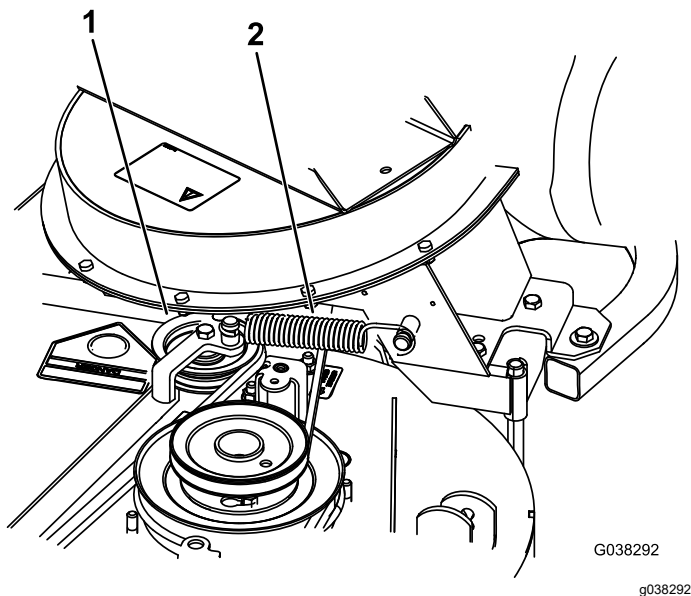

Figure 41
8. Install the spring as shown in Figure 41.
9. Install the belt onto the spring-loaded idler pulley (Figure 41).